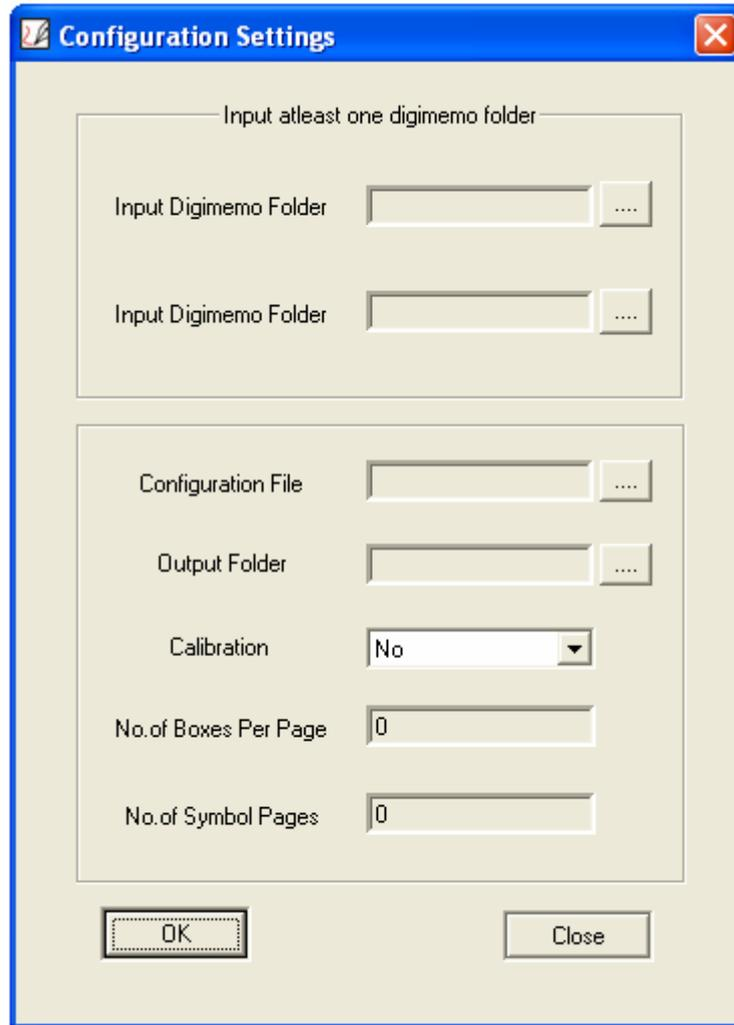

Figure 5: Configuration Settings dialog box
2. On entering **123** as the password, the Configuration Settings dialog box (Figure 5) appears.